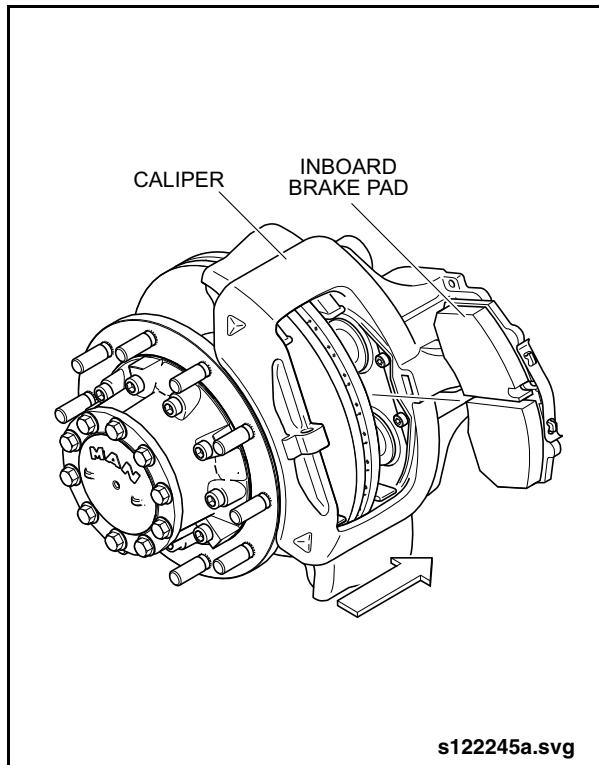

Fig. 2-122: Brake Pad Installation
1. Push the brake caliper inward against the stop and insert the inboard brake pad. See "Fig. 2-122: Brake Pad Installation" on page 108.